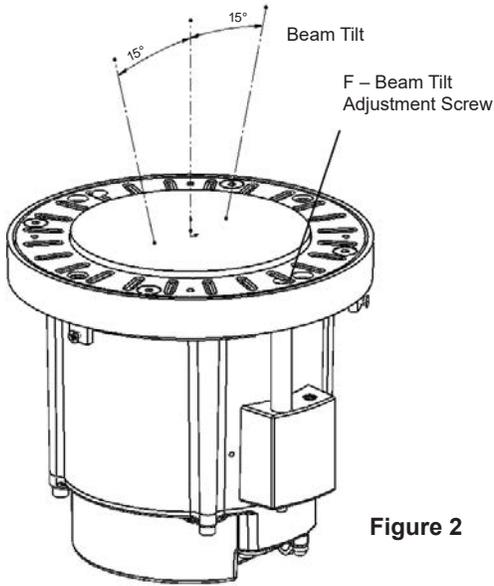

Figure 2
- 2) Remove decorative trim ring (A) by removing four trim ring screws (B) using 2.5mm Allen hex wrench provided.
- 3) Remove fixture assembly (C) from plastic well assembly (D) by removing two screws (E) using the 2.5mm hex wrench provided. **NOTE:** It is not necessary to open sealed fixture assembly for any part of the installation. There are no adjustments or user serviceable parts inside the unit.
- 5) **NOTE:** Well housing assembly must be oriented correctly to ensure adjustable beam tilt feature operates in the desired directions. (See Figure 2 and 3.) At desired location, dig hole approximately 3" larger in diameter and depth than the housing. Top edge of housing should be at or slightly above finish grade or to top of concrete grade. Adjust by adding or removing pea gravel or equivalent drainage material.
- a. If installing in concrete, plastic well housing should be secured with reinforcing bars (rebar) (not provided). Pour concrete to top edge of well housing (D).